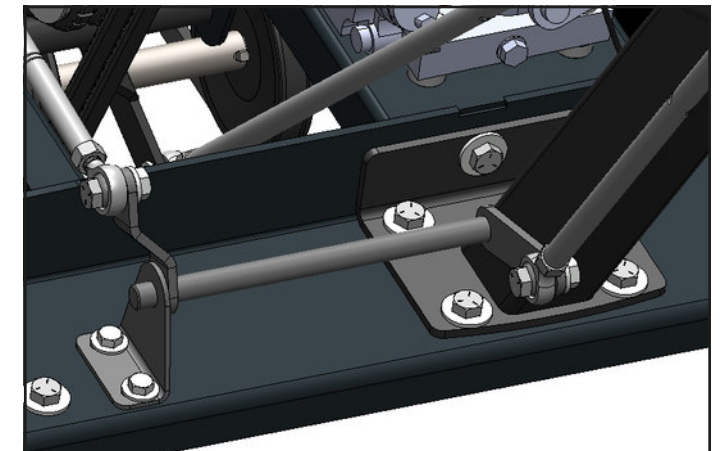

Figure 9.3
- Ensure that the **trap lever pivot** is properly positioned **between the column and the support bracket**. See Figure 9.3.